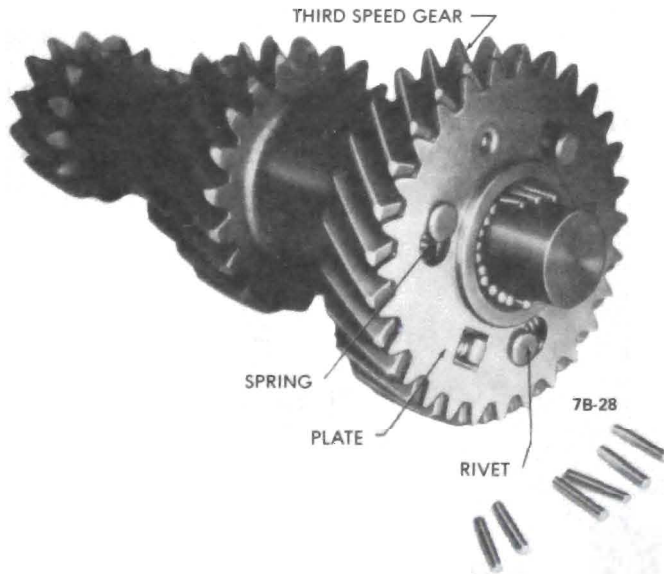

Figure 7B-28 - Anti-Rattle Gear Springs
2. From each end of counter gear, install 27 needle bearings and spacer. Use heavy grease to retain needle rollers. See Figure 7B-27.
#### Disassembly (See Figure 7B-29)